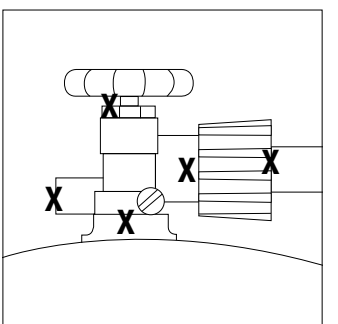

Figure 3
2. Make sure control knobs are in the "OFF" position (Figure 3).